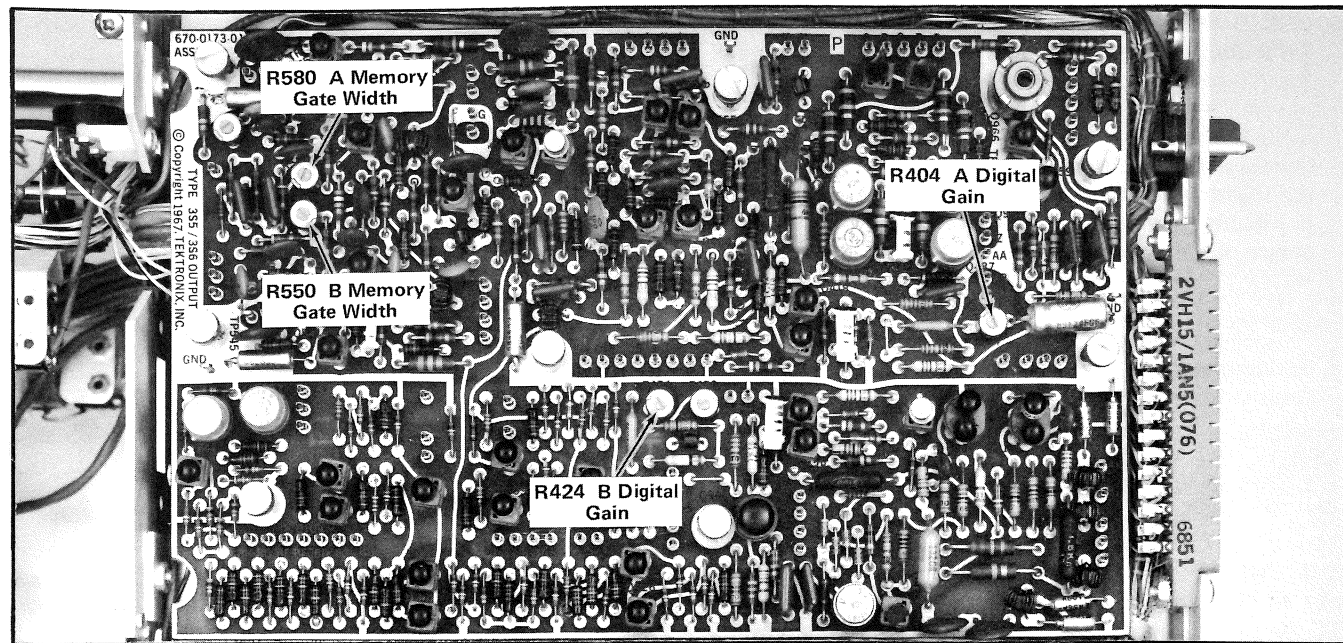
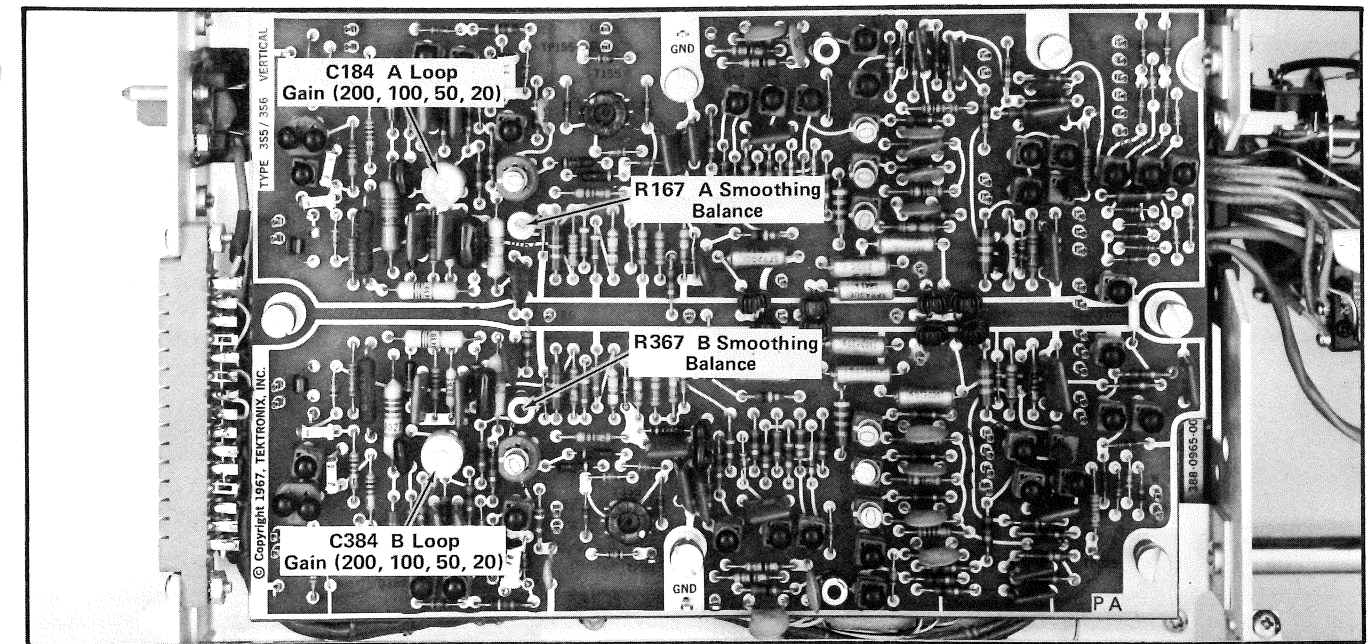

Fig. 6-2. Type 3S6 or Type 3S5 Output circuit board.
Fig. 6-3. Type 3S6 or Type 3S5 Vertical circuit board.
g. ADJUST—R580, the A Memory Gate Width adjustment, (see Fig. 6-2) for maximum Type 230 readout (greatest separation of traces on CRT graticule).
h. ADJUST—C184, the A Loop Gain (200, 100, 50, 20) adjustment, (see Fig. 6-3) for 500 millivolts as measured by the Type 230 (trace separation of 5 divisions on CRT graticule).
(see Fig. 6-2) and B Loop Gain (200, 100, 50, 20) adjustment C384 (see Fig. 6-3).
e. ADJUST—R387, the B Smoothing Balance adjustment, (see Fig. 6-3) so that there is no shift in the trace when the Normal-Smooth switch is switched between its two positions.
g. Repeat parts b through e for the A Smoothing Balance adjustment, R167, (see Fig. 6-3).
i. ADJUST—R404, the A Digital Gain adjustment, (see Fig. 6-2) for 600 mV.
m. Repeat parts g through i to adjust the B Digital Gain adjustment, R424, (see Fig. 6-2).